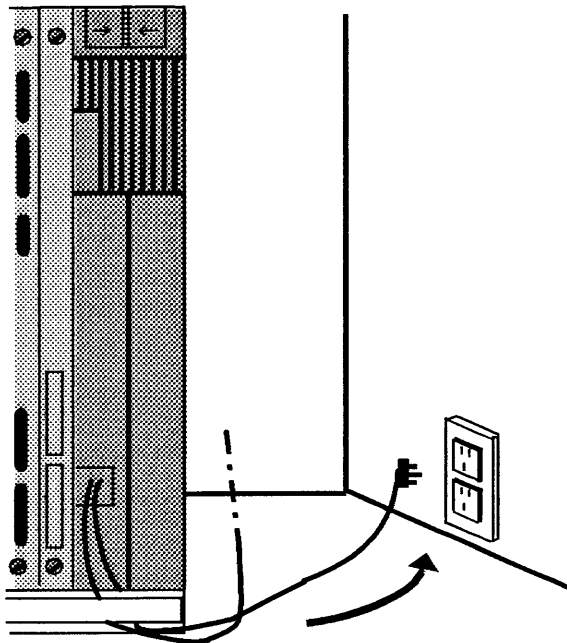

Figure 32. Inserting the Power Cord Into the Wall Outlet
1. Insert the end of the power cord into the wall outlet (Figure 32).